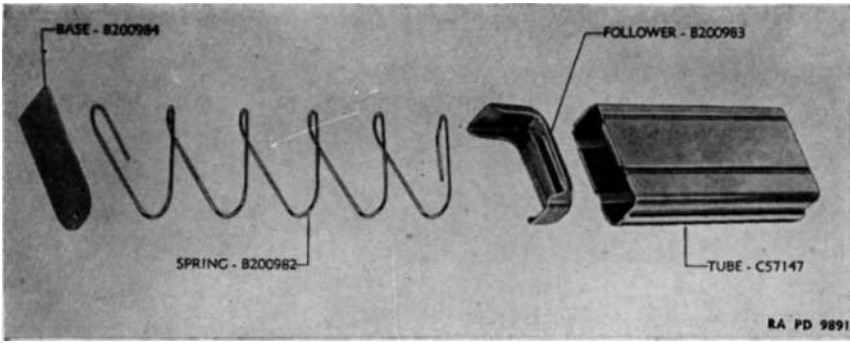

Figure 68. Magazine group.
#### 59. Inspection (figs. 68 and 69).
c. Push follower to top of tube and insert magazine spring with long dimension to the rear as shown in figure 68. In this position the follower will slide evenly in the tube. Compress spring with thumb, and starting from the rounded edge of tube, insert the base, square end first, with projection of indent facing in, under retaining lips of tube. Push base in until projection catches on tube. Push follower down in tube and release to test smoothness of functioning. If follower does not reciprocate smoothly under spring action, tube or follower is distorted and should be corrected. (Magazine base of recent design is ribbed for stiffening. Ribs should face inward when base is assembled.)